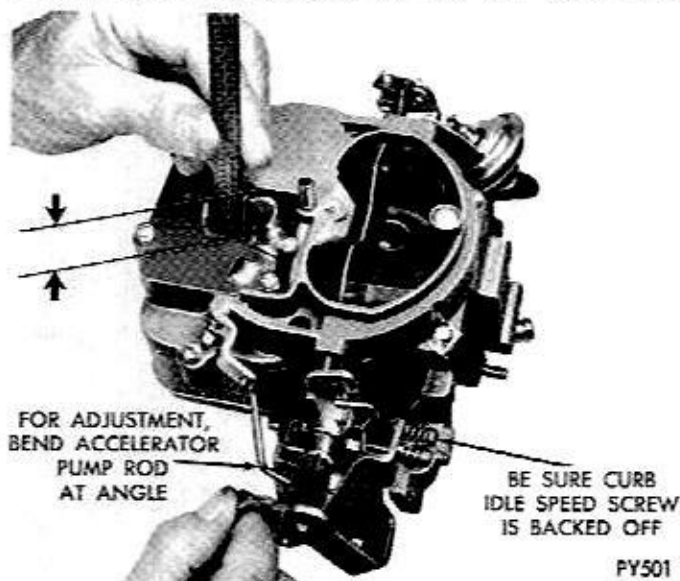

Fig. 11—Checking Accelerator Pump Setting
(1) Back off idle speed adjusting screw. Open choke valve so that fast idle cam allows throttle valves to be completely seated in bores. Be sure that pump connector rod is installed in outer hole of throttle lever.
(2) Close throttle valves tightly. Measure the distance between top of air horn and end of plunger shaft, (Fig. 11). This measurement should be 1.00 inch.
(3) To adjust pump travel, bend pump operating rod using Tool T-109-213, at lower angle of rod, until correct setting has been obtained.